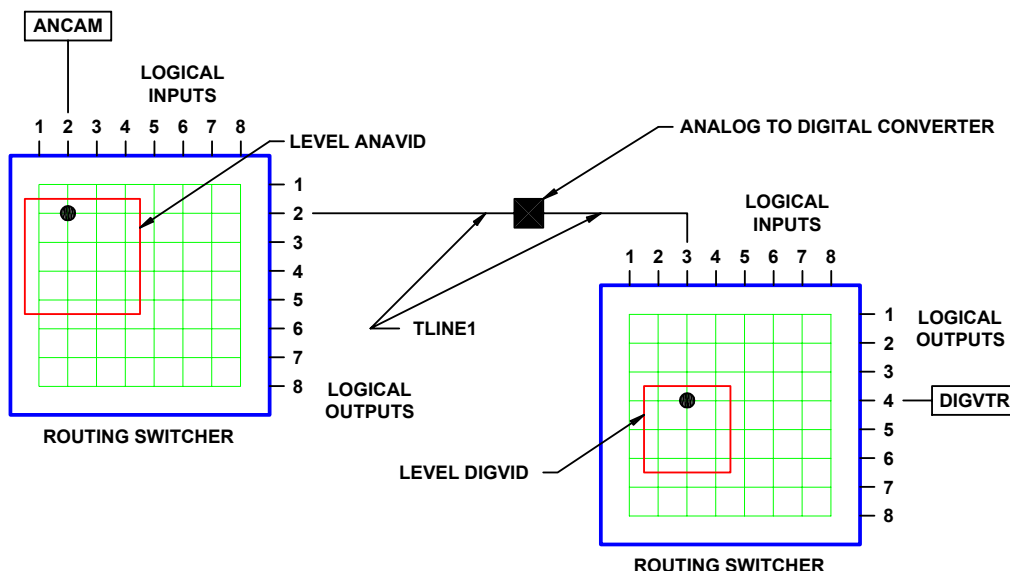

Figure 92. Tieline
**Example 1 - Switch a signal from analog camera ANCAM into an analog-to-digital converter (A/D) and then into digital video tape recorder DIGVTR:** (Figure 92) Connect a cable between the appropriate output connector of the analog routing switcher and the input of the A/D, and a cable between the output of the A/D and the appropriate input connector on the digital routing switcher. Configure levels ANAVID and DIGVID and tieline TLINE1 to connect them. Configure destination DIGVTR on level DIGVID. Configure source ANCAM on level ANAVID to use